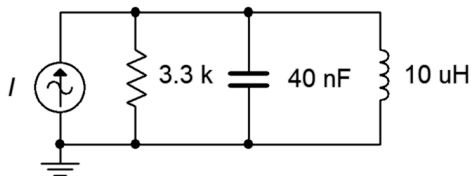

Figure 8.12
26. Given the circuit shown in Figure 8.12, determine the resonant frequency, system Q and bandwidth. If the source is 10 mA, determine the resistor voltage and the three branch currents at resonance. Assume the inductor's Q is given by curve B.